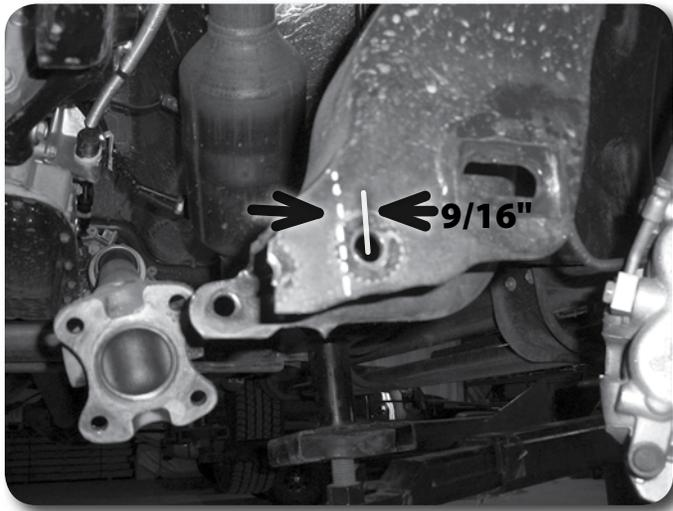

Figure. 11
30. The driver's side rear lower control arm pocket must be trimmed to provide clearance for the differential in its lowered position. Measure inward from the center of the outer crossmember mounting hole $9/16"$ and mark. Repeat on the opposite side of the pocket. Make a continuous line connecting the two marks over the top edge of the pocket. Trim the pocket on the line with a saw-zall or cut off wheel. Paint any exposed metal to prevent corrosion **Figure 11 / 12**.